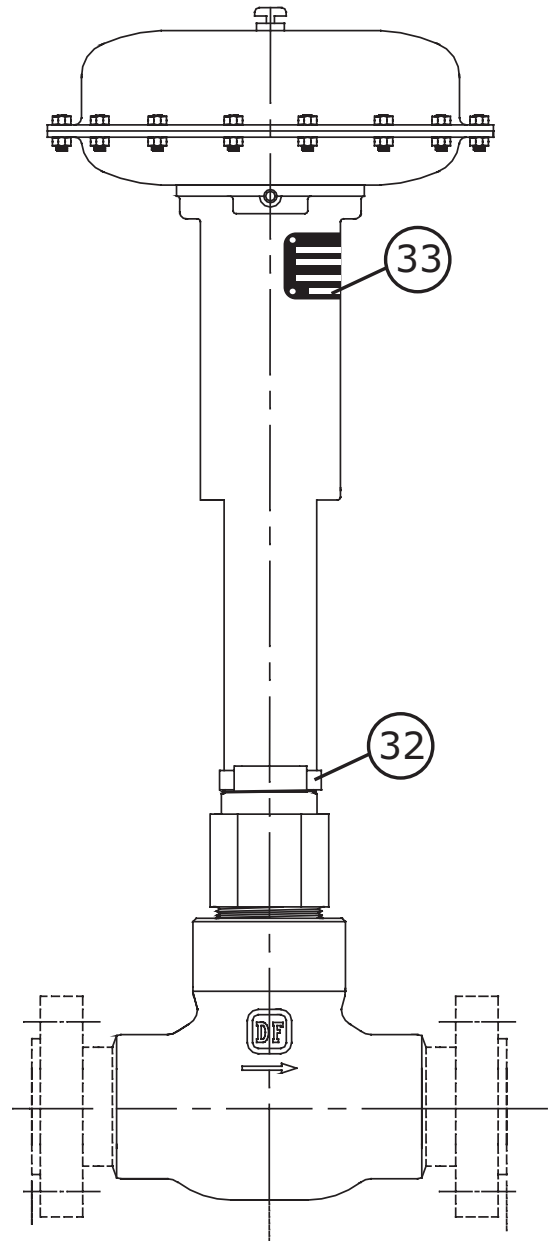

Figure 5 Actuator & Valve Mounting Diagram
- 3 Be sure to have the yoke nut (Key 32) sitting inside the actuator yoke or have the yoke nut ready to be placed in between the actuator stem and valve stem when lowering the actuator onto the valve. Carefully lift and lower the actuator onto the valve, this may require more than one person or a heavy lifting device. Once on the valve, orientate the actuator to be properly aligned parallel with the valve body (see Figure 5).